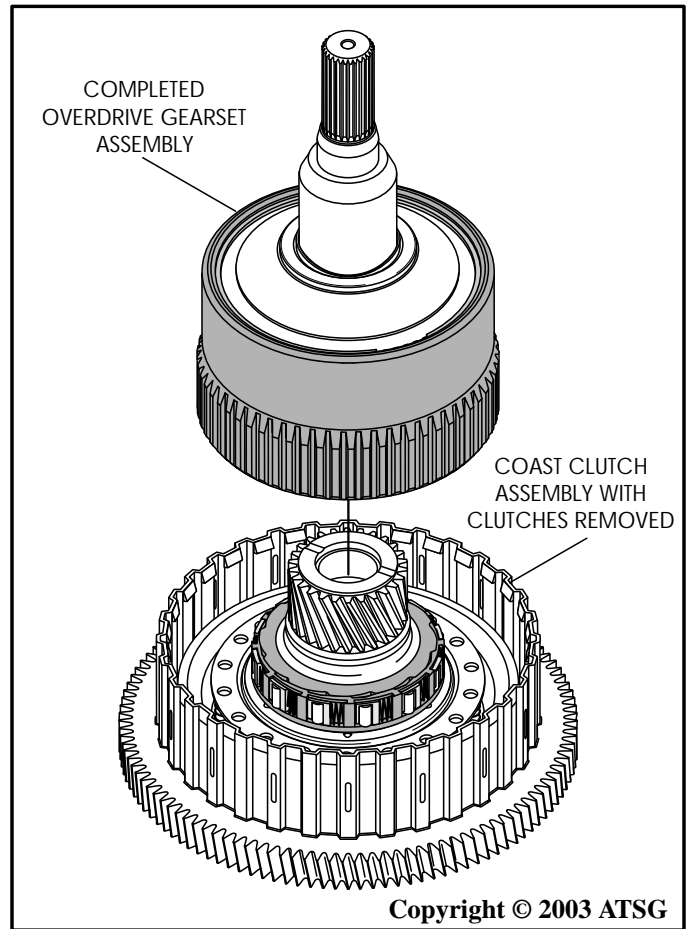

Figure 156
18. With coast clutch plates removed, install the pre-assembled overdrive gearset onto coast clutch housing, as shown in Figure 156, by rotating counter-clockwise until fully seated.